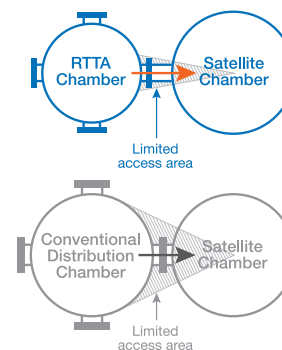

Fig. 3: Greater access to satellite chamber
3. Gain greater access to satellite chambers. This derives from the fact that the smaller distribution chamber subtends a smaller angle from the satellite chamber (Fig. 3).